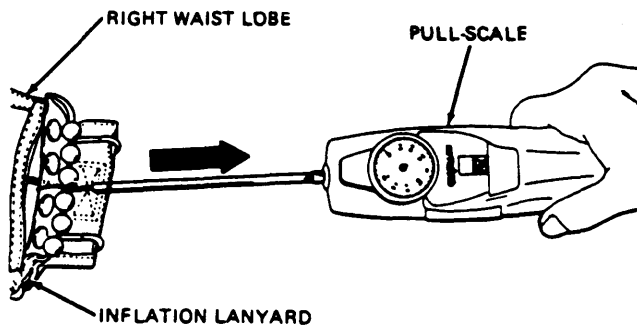

Figure 6-22.—Inflation lanyard pull test.
2. On life preservers with beaded inflation handles, attach a pull scale to top end (end opposite inflation lanyard) of beaded inflation handle (fig. 6-22).